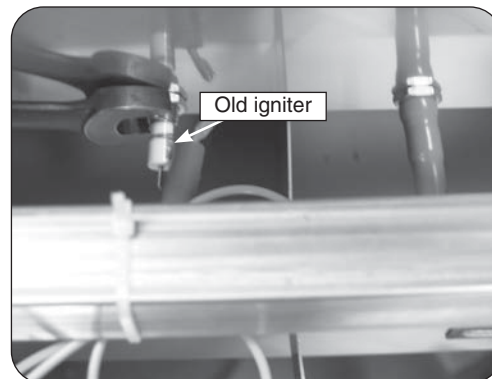
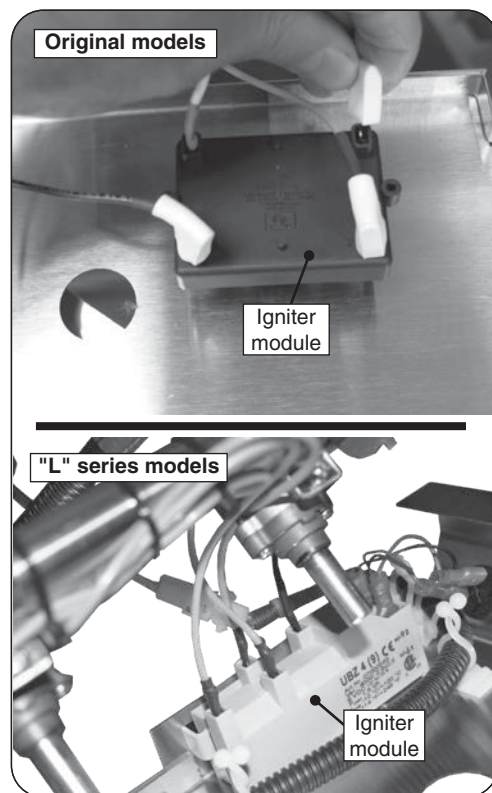

Fig. 2-1 Remove old igniter electrode
Fig. 2-2 Remove old igniter wire
6. Remove the existing igniter box by first loosening the nut on the faceplate side of the fire wall with a wrench. Disconnect the wire connector from the electrode and pull it through the hole (see Fig. 2-1). Unplug the other end and discard the old wire (see Fig. 2-2).